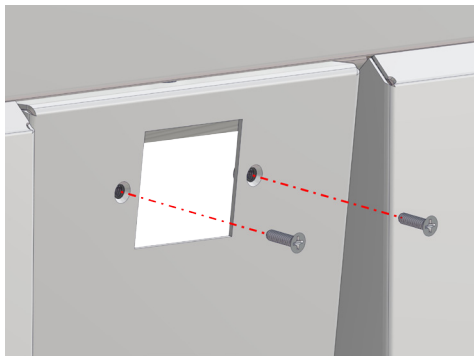

Fig. 6: Insert flathead screws
4. From the sink front, insert two screws (table Item #4) into the screws holes on the intermediate panels (Fig. 6).